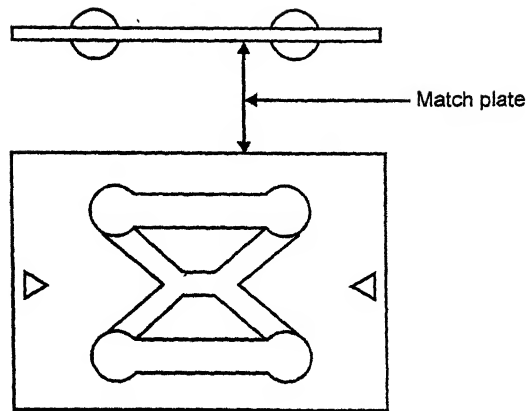

Fig. 8.5. Match plate pattern.
- Fig. 8.5 shows a match plate upon which the patterns of two small dumb bells are mounted.